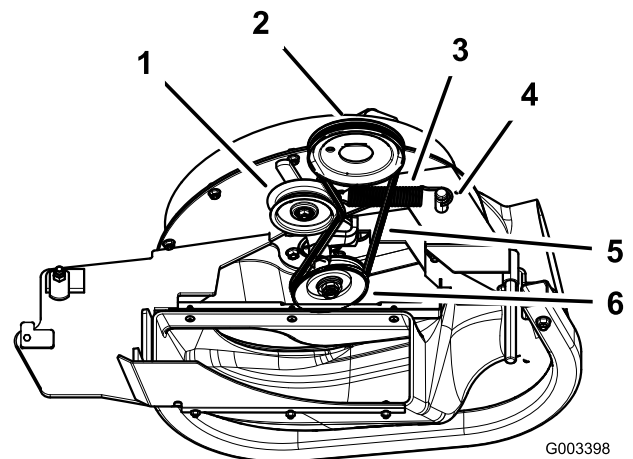

Figure 33
3. Pull back on the spring-loaded idler pulley to relieve the belt tension (Figure 33).
5. Install the new belt around the blower pulleys and the mower-deck pulley (Figure 33).
- Pull back on the spring-loaded idler pulley and install the belt onto the spring-loaded idler pulley (Figure 33).